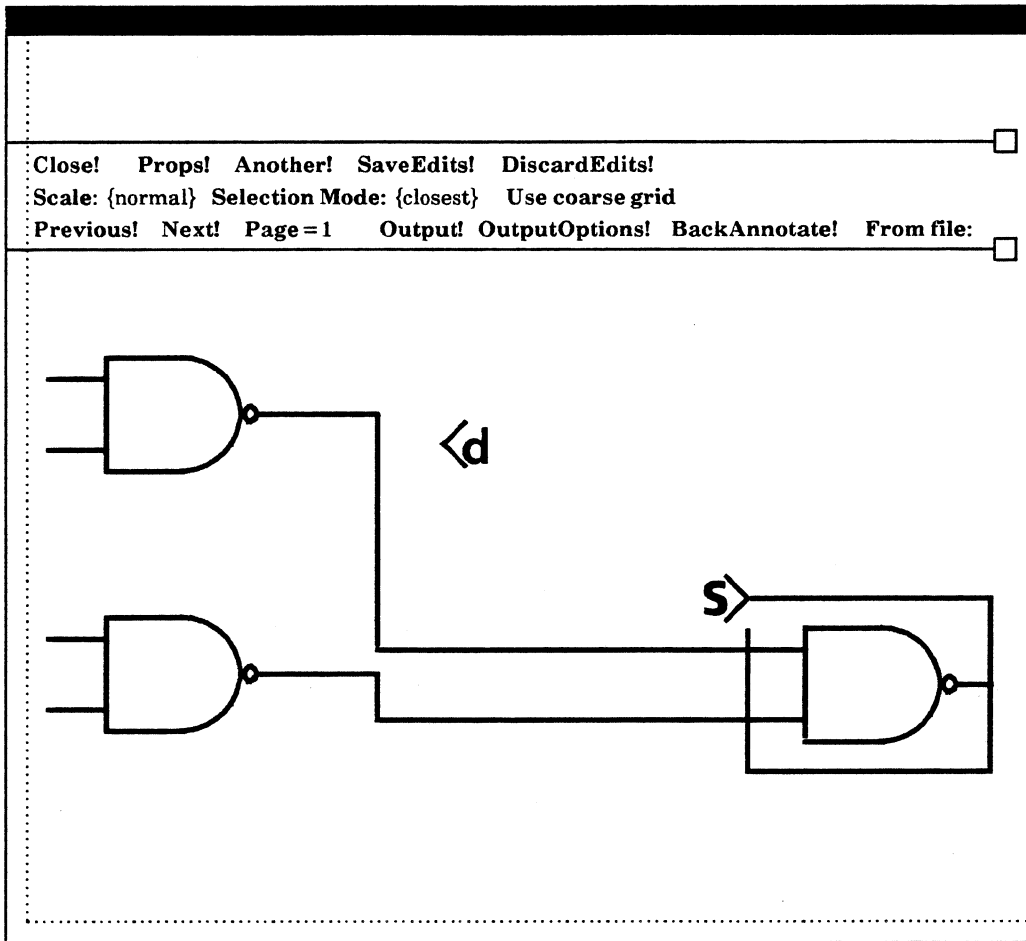

Figure 2.39
- 3) Press the **MOVE** key. The system moves the object to the destination, moves the source marker to the destination point, and the destination marker to the source (figure 2.39).